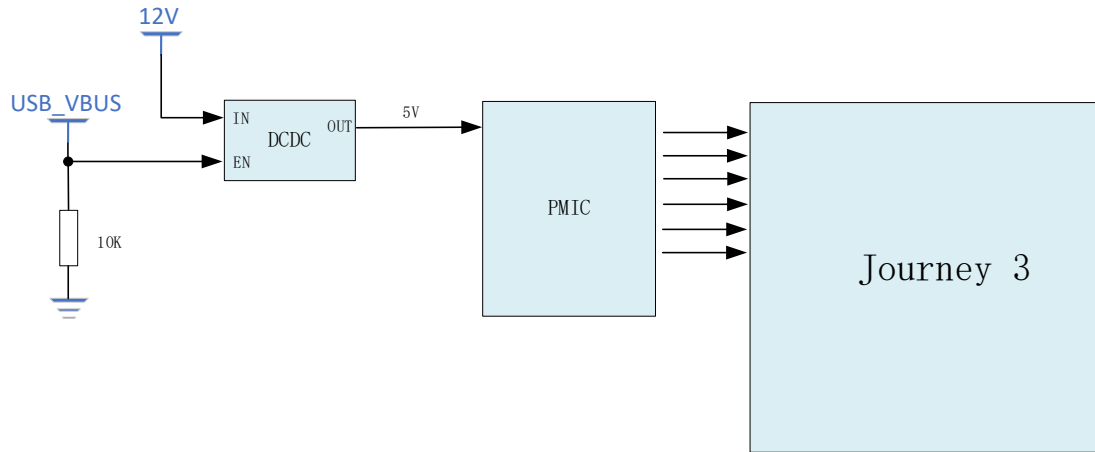

Figure 2-12 USB VBUS Controlled Power up for J3
**Solution B:** Use USB\_VBUS as enable signal to the Journey3's PMIC output. J3 will not power up without USB\_VBUS inserted. This is common in Smart USB Camera scenario. Please refer to the Figure 2-12 for this solution.